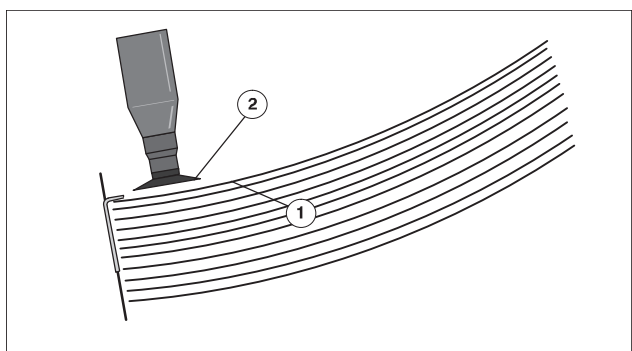
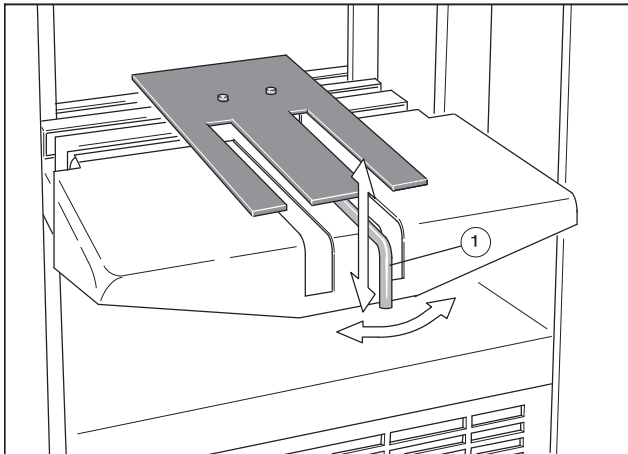

Fig. 47 Aligning the pile surface
Fig. 48 Lever for aligning the pile surface
1. After inserting the printing material, align the pile surface (Fig. 47/1) with the lever on the inclinable feed table (Fig. 48/1) in such a way that the envelope at the top is in parallel with the feed table height control bar and the lower edge of the suckers (Fig. 47/2).